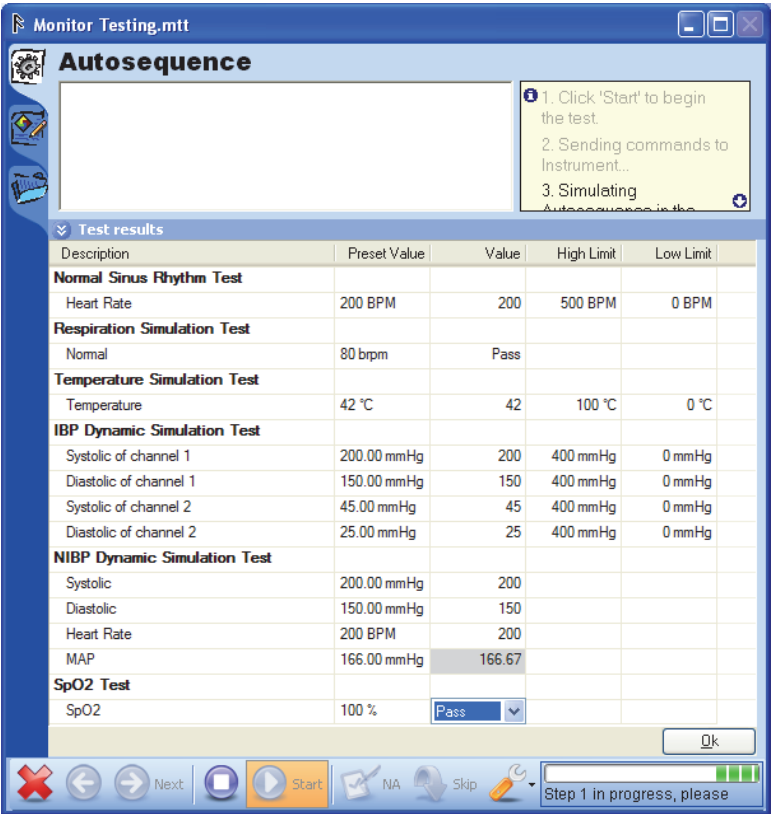

Figure 3-23. Step Test Results Screen
4. The test results pane shows the step number and name. A count down of the time remaining in the step duration is also shown. If you want to move to the next step before the duration time is completed, click the **Next Step** button. When you click on the Next Step button or the duration time completes, Ansur shows the test results values for the step just completed. See Figure 3-23.